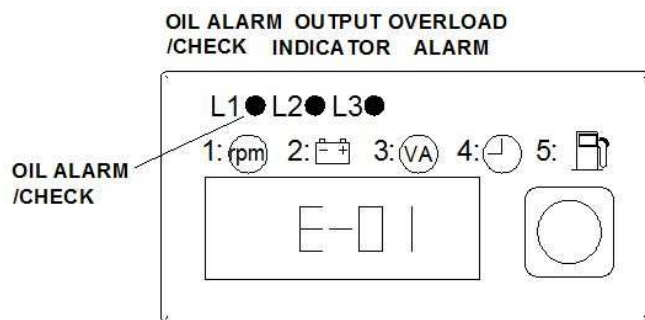

Figure 24
(6) Figure 24 is the system fault code display. When the generator appears system fault, the displayer shows word like “E-01” (see figure 24). If the generator still run